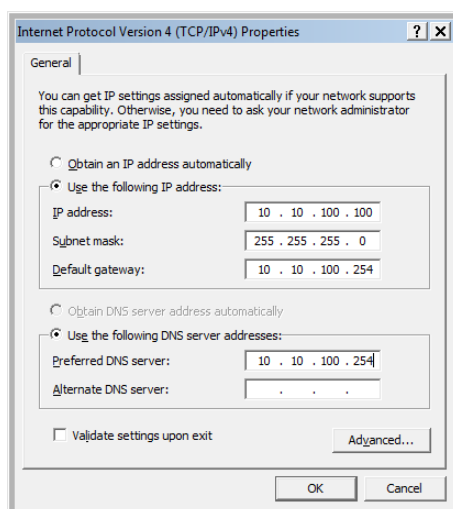

Figure 3.2: IP address setting
- (2) As shown in figure 3.2, set local IP to 10.10.100.100, set subnet mask to 255.255.255.0, set gateway to 10.10.100.255, set DNS to 10.10.100.254.